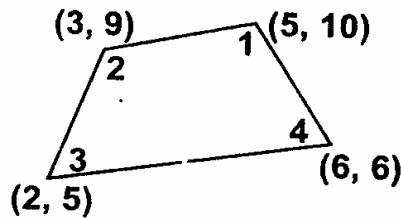

figure 5.3
3. Establish the strain displacement matrix for the linear quadrilateral element as shown in figure 5.3. at Gauss point $r = 0.57735$ and $s = -0.57735$